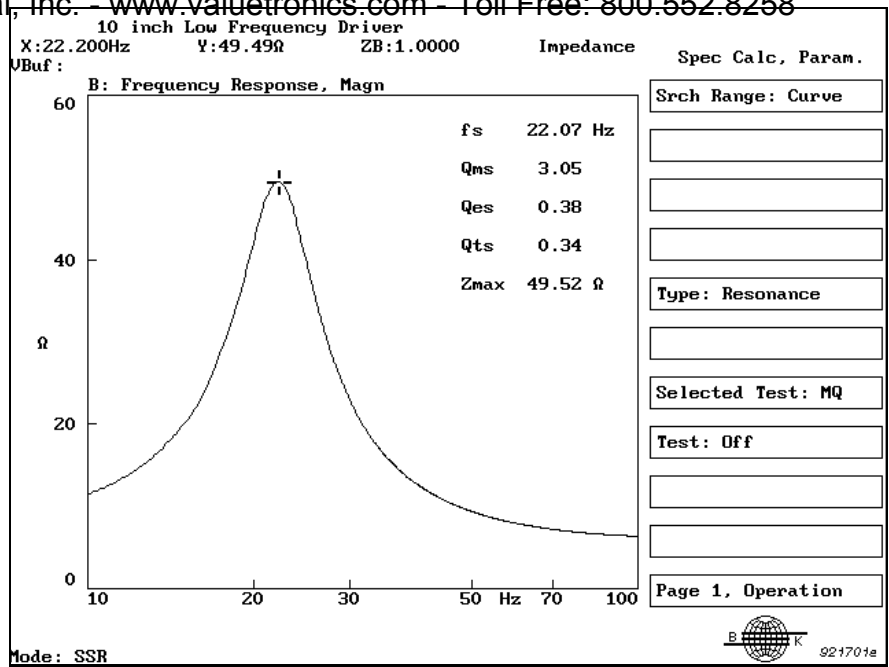

Fig.3 The Max. Cursor can be used to automatically calculate the Q-value for a loudspeaker
For locating a local or global minimum or maximum and positioning the cursor on that point. Furthermore, for frequency responses, the resonance frequency, level and quality factor (Q) can be calculated. For frequency spectra the pure tone frequency and level can be calculated. Fig.3 illustrates a data sheet for a loudspeaker with some of the basic driver parameters.